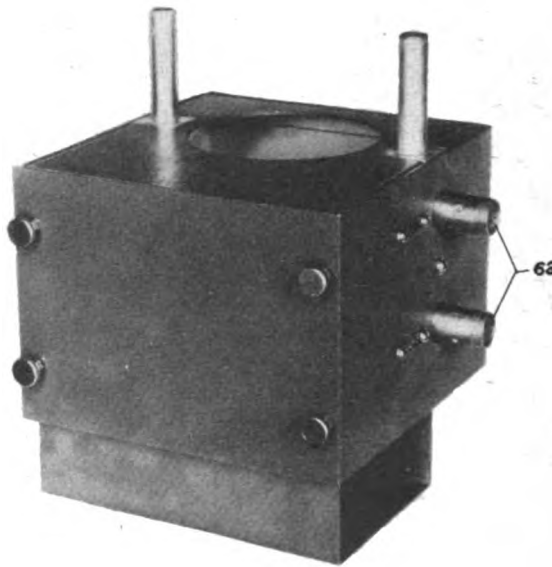

Figure 6—Brush Holder Assembly, Front View
*e. Brush Holder Assembly.* The brush holder assembly, figure 6, contains four shielded brushes, a cam operated micro-switch, a slider resistor and a terminal board with associated wiring. It mounts on the bottom of the gear box. The purpose of this brush assembly is to carry the voltage out from the slip rings to receptacles provided at the outer ends of the shielded brushes. Cables plugged into these receptacles carry the voltage to the antenna coupling panel and thence to the monitor receiver. The cam operated micro-switch mounted in this assembly is used with the cam on the slip ring assembly to provide an indication on